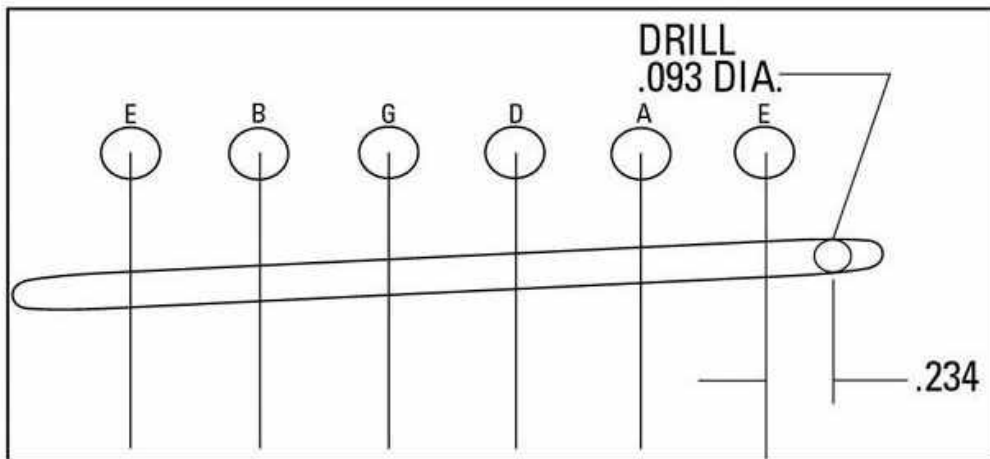
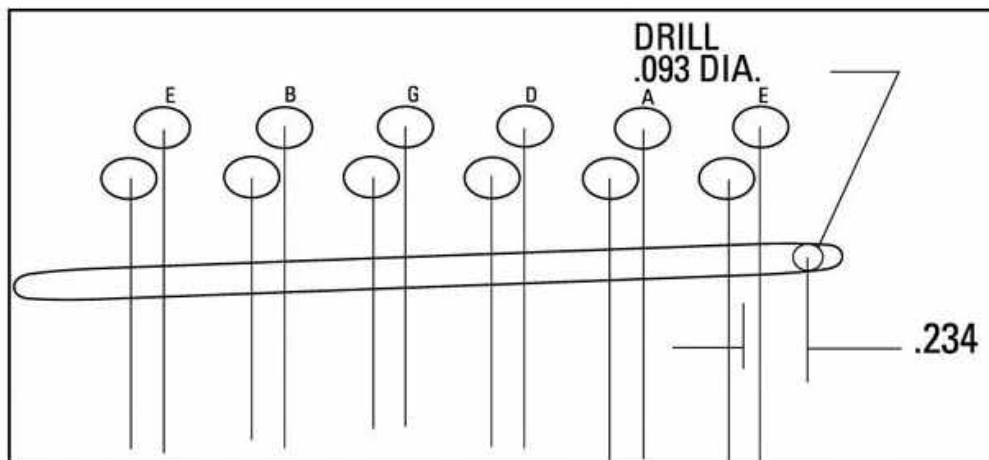

Figure 2
Figure 3
7) Carefully measure, mark and drill a .093 (3/32") hole for the transducer lead wire in the bottom of the saddle slot, referring to Figure 2. If you are installing a Sadducer in a twelve-string, refer to Figure 3. In a first time installation this hole should be referenced to the low E string, although the Steel String Sadducer can be installed with the lead wire on the high E string side if desired. **The Nylon String Sadducer has a special crystal under the high E string so it MUST be**